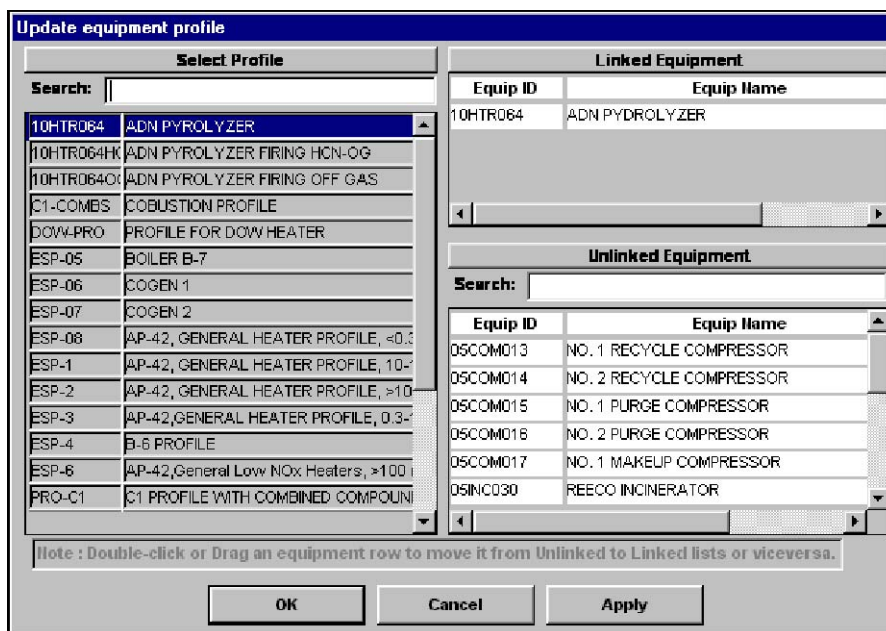

Figure 5.11
1. While the Profiles detail screen is open, users may click on the *Link Sources* icon or the *Options* menu located at the top of the screen and select *Link Sources*. This will open a screen in which Profiles and Sources are displayed in separate windows, and users may “drag and drop” the desired Profile to the appropriate window to save this link. (See Figure 5.11)